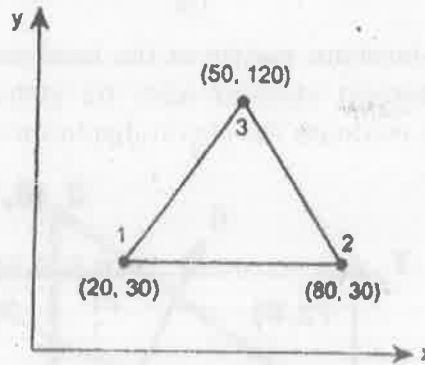

Fig. 4
13. (a) Determine the stiffness matrix for the CST element shown in Figure 4. The coordinates are given in units of millimetres. Assume plane stress conditions. Consider $E = 210 \text{ GPa}$, $\nu = 0.25$ and $t = 10 \text{ mm}$.